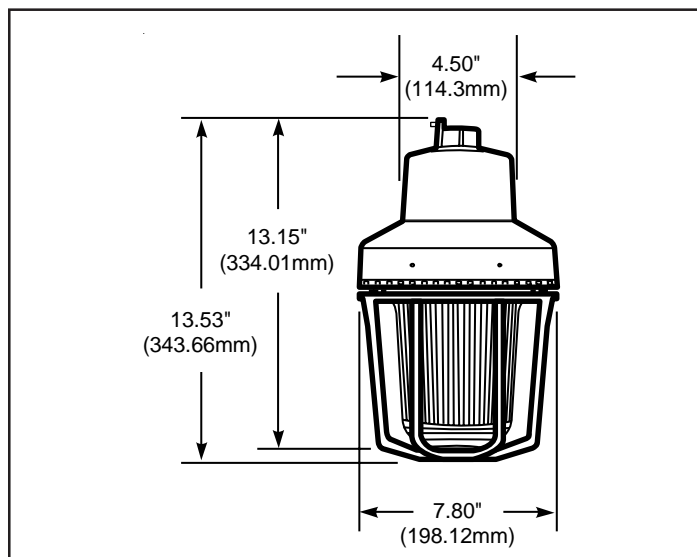

Figure 1. Detail of Pendant Mounting
- a. **Pendant Mount Models** (Figures 1 and 5): Unscrew the globe assembly from the mounting hood and set aside. Install explosion-proof hanger box (not supplied). Secure 3/4" (19 mm) NPT threaded conduit (not supplied) to the box. Install the hood on the conduit. Proceed to step 2.